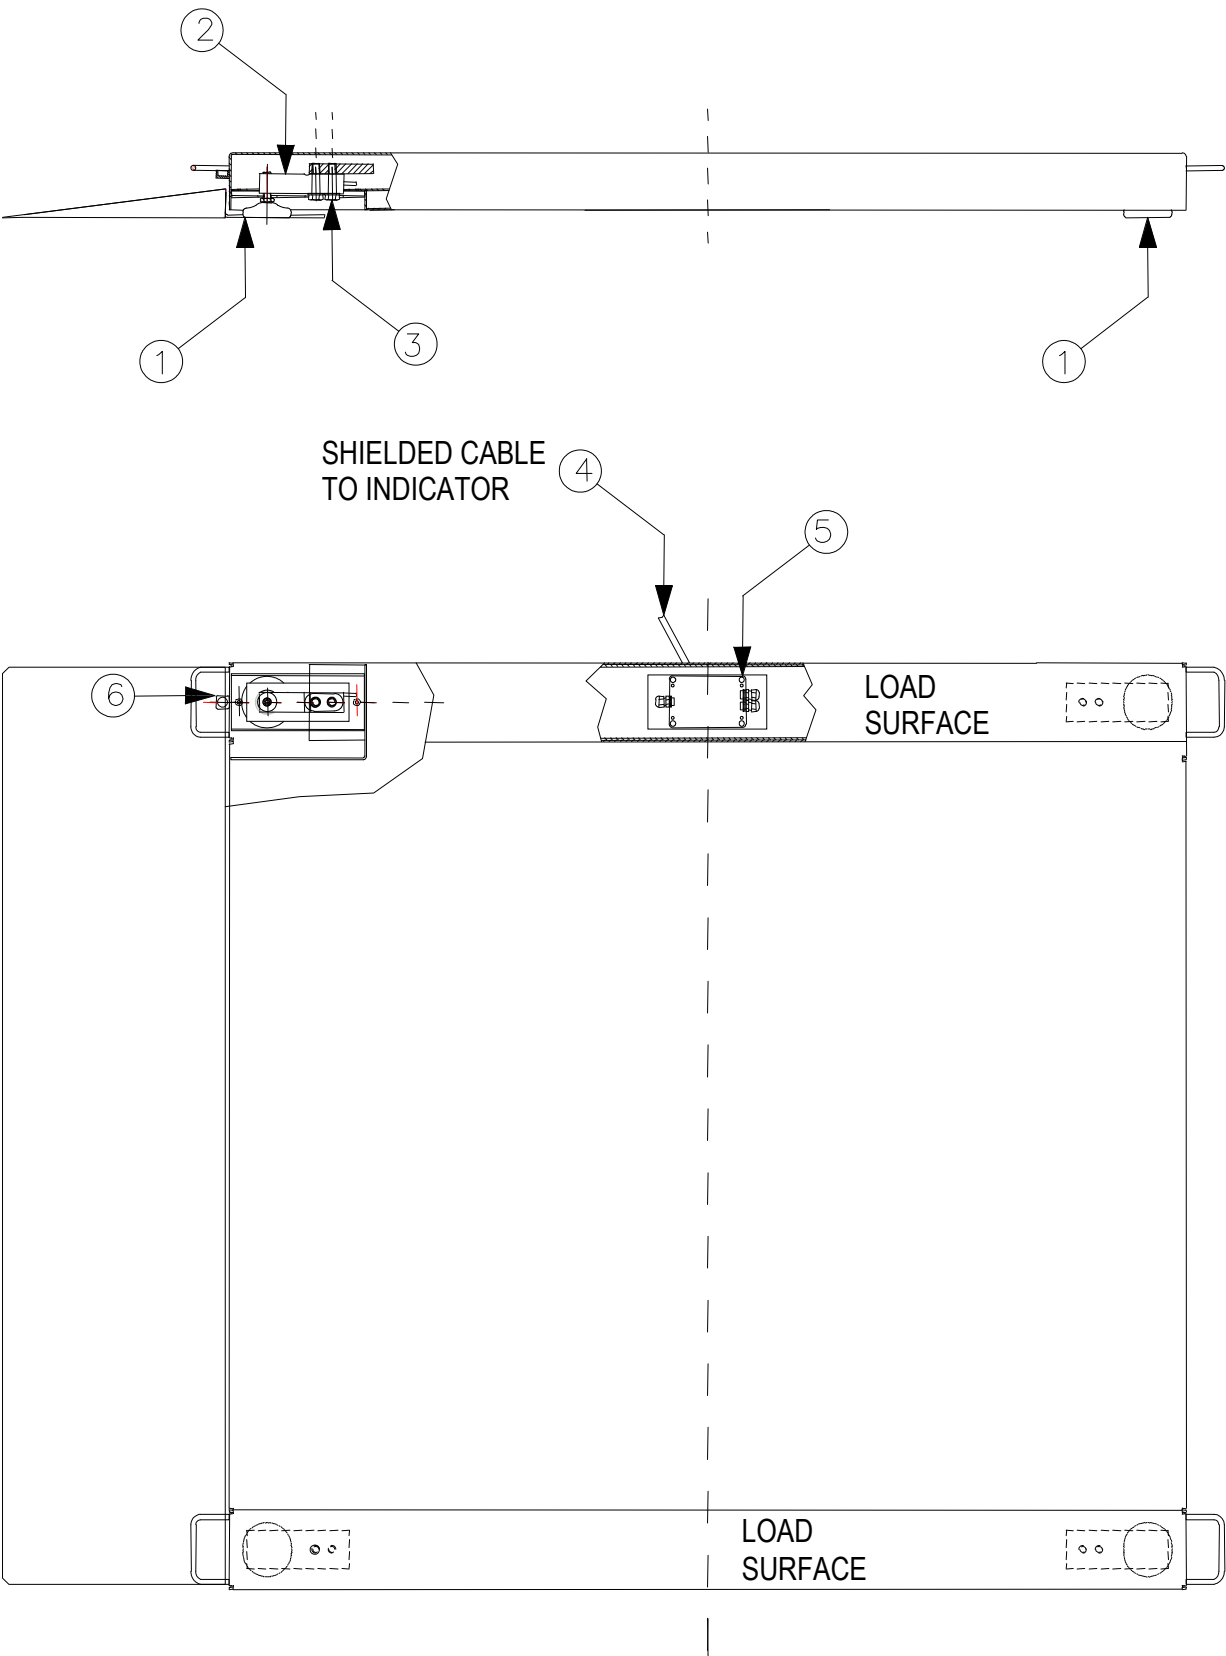

Fig.2
- c) Open the trapdoor (the platform LPI, 5 fig.2) (the platform LP, 5 fig.3) by removing its screws, and connect the screened cable, connected to the junction box, at the instrument. The cable must be free, so that the resistances are not energised, which could alter the measurement. Refer to chapter 8 for cables colour and function.
- d) Reposition the trapdoor (5 fig.2 and 5 fig.3) on the loading top using its screws.